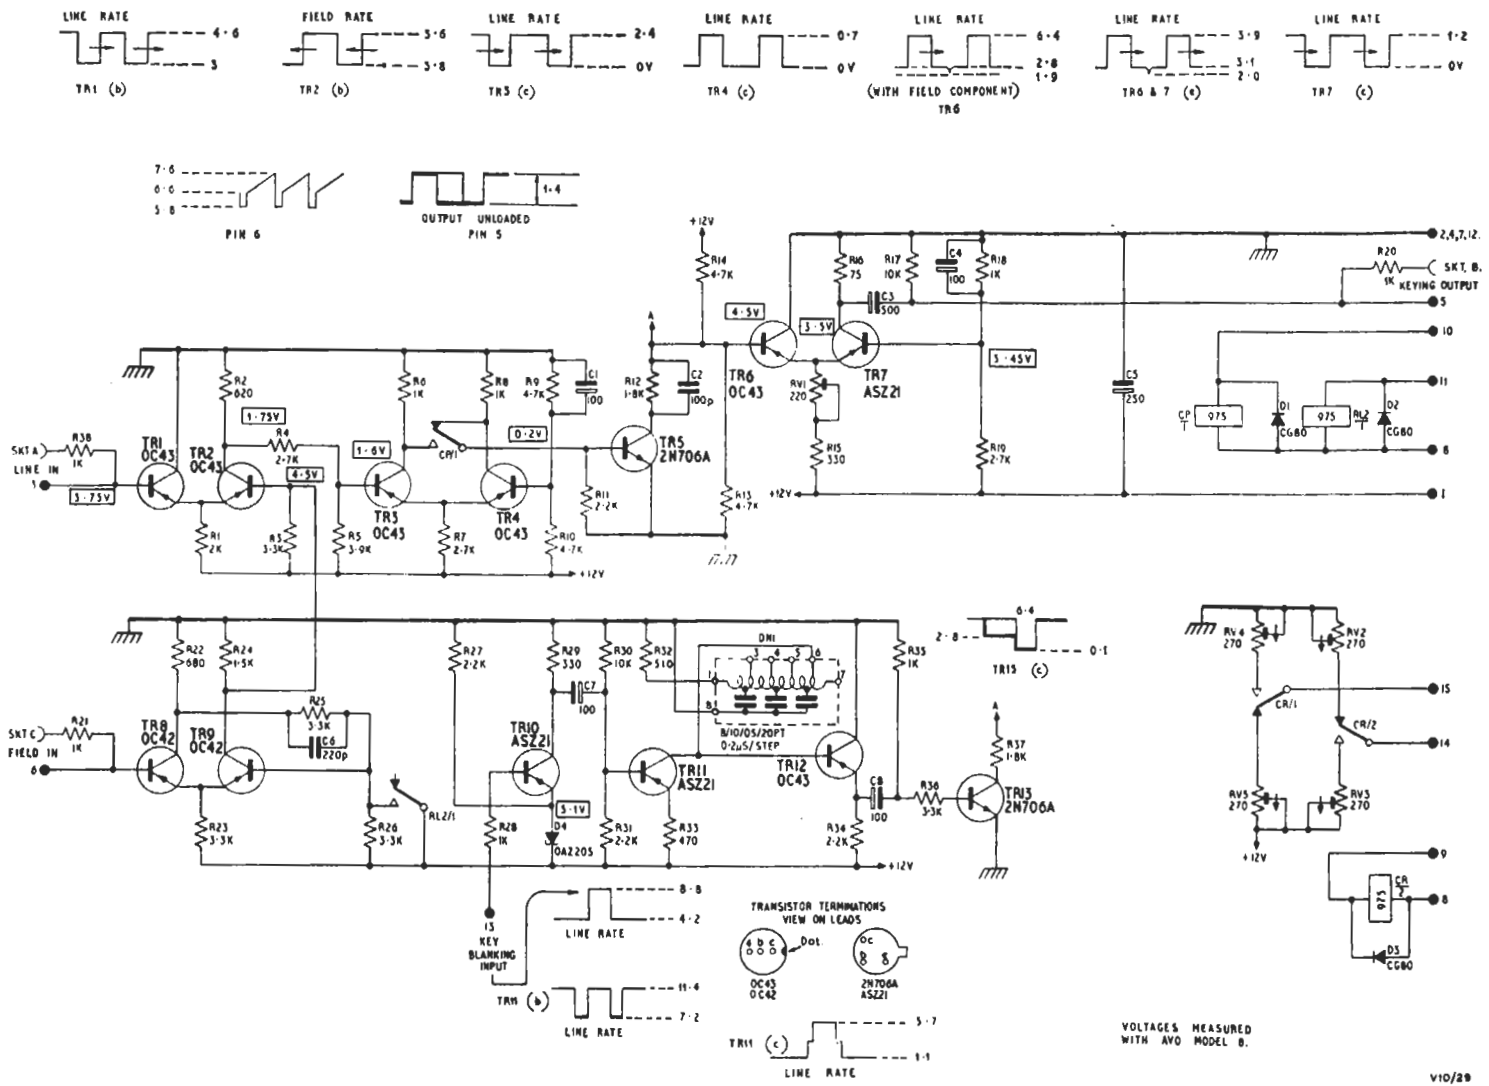

Fig. 18.1 Circuit of the GE2/5/18
The circuit of the GE2/518 is given in Fig. 18.1. The line-frequency waveform is fed to one input of a long-tailed pair which is used as a gate. The field sawtooth waveform is fed to the other input of the long-tailed pair via a Schmitt trigger circuit which includes transistors TR8 and TR9. The trigger circuit squares the sawtooth waveform at a voltage level determined by its d.c. component. The sawtooth also contains a line-frequency component so that the trigger circuit switches at the ends of successive lines instead of during the active part of the lines.
and increased in duration in a three-stage amplifier which includes transistors TR10 to TR12. The collector load of transistor TR11 is a delay network DNI terminated at one end and fed at an intermediate point. The terminated part of the delay network can be regarded as a resistance equal to the characteristic impedance of the network. The remainder of the network is open circuited. The current pulse from the amplifier divides equally between the terminated and open circuit portions of the network. The open circuit portion of the network reflects the pulse after a short delay. The direct and reflected pulses overlap as shown in Fig. 18.1. The tap on the delay network is adjusted so that the end of the stretched key blanking pulse occurs just before the end of the mixed blanking component of the video signals being wiped; see PA1/512, Instruction V.13.
*See overleaf for Fig. 18.1*